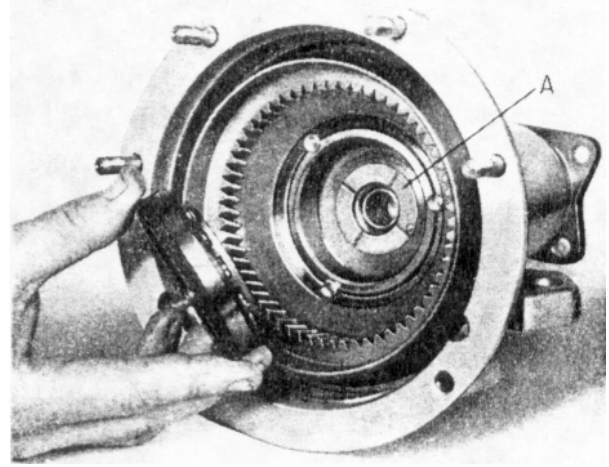

Fig. 20 Transferring Roller Clutch to Annulus.
The roller clutch can then be transferred direct from the assembly ring to the annulus, remembering to put the bronze thrust washer (A) (Fig. 20) into position first (Figs. 20 and 21).